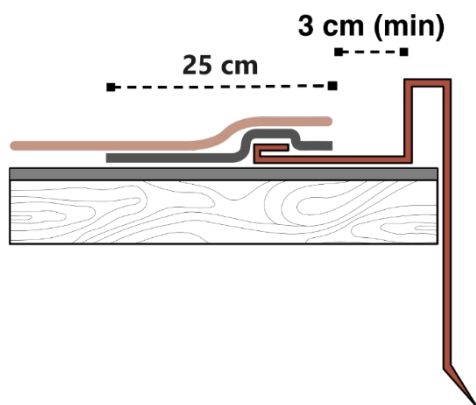

Fig. 17 - Detail of the lateral flashing
- Install the lateral flashings above the membrane applied to the roof. Apply a band of bituminous membrane, about 25 cm wide, to overlap the flashing. Proceed with the normal installation of the shingles by torch, as will be described below, above the lateral flashing. Leave a space of about 3cm between the end of the shingles and the edge of the lateral flashing. - Fig. 17.